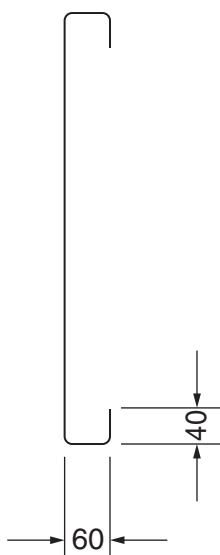

Fig. 2
- (e) Fig. 2 shows details of the bends made in the coat rack.